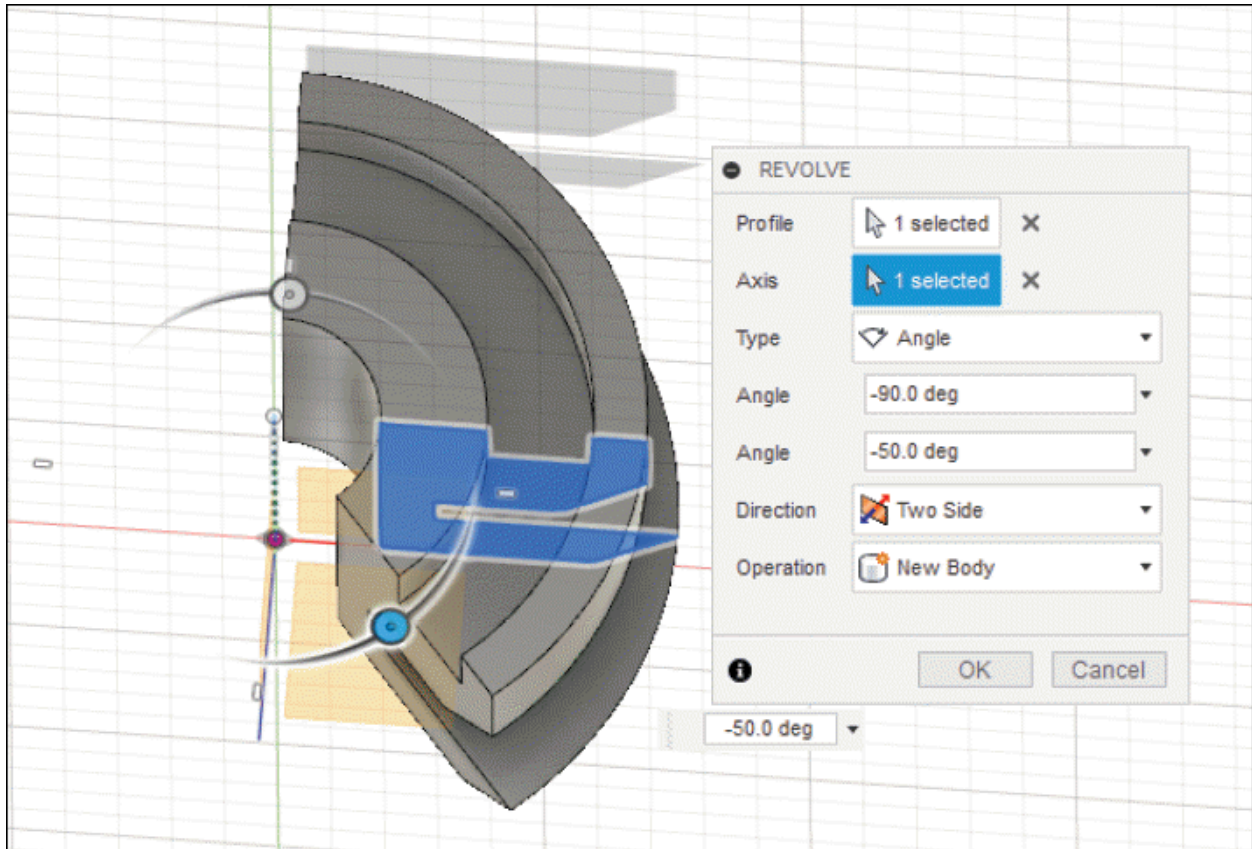

Figure-54. Two side tool
- Select **Two Side** option from **Direction** drop-down if you want to revolve the profile in both sides with different revolution angles; refer to Figure-54.